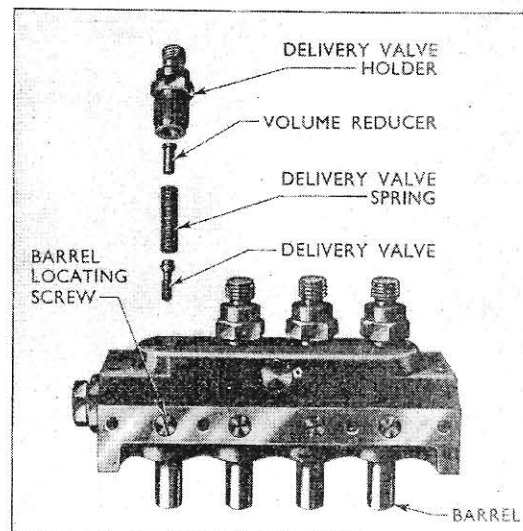

Fig. 15.
2. Unscrew the delivery valve holder, using Tool No. CT.9008, and extract the valve complete with spring and volume reducer (see Fig. 15).
11. Remove the delivery valve holders, and lift out the volume reducers, springs, and delivery valves (see Fig. 15). The delivery valves and guides are matched assemblies and must not be interchanged.
12. Remove the barrel locating screws (see Fig. 15) and push the barrels upwards to remove the delivery valve guides and washers. The delivery valves should be kept with their respective guides, and the barrels with their plungers.
9. Replace the delivery valve springs and volume reducers. Refit the delivery valve holders and tighten them until they are finger-tight (see Fig. 15).